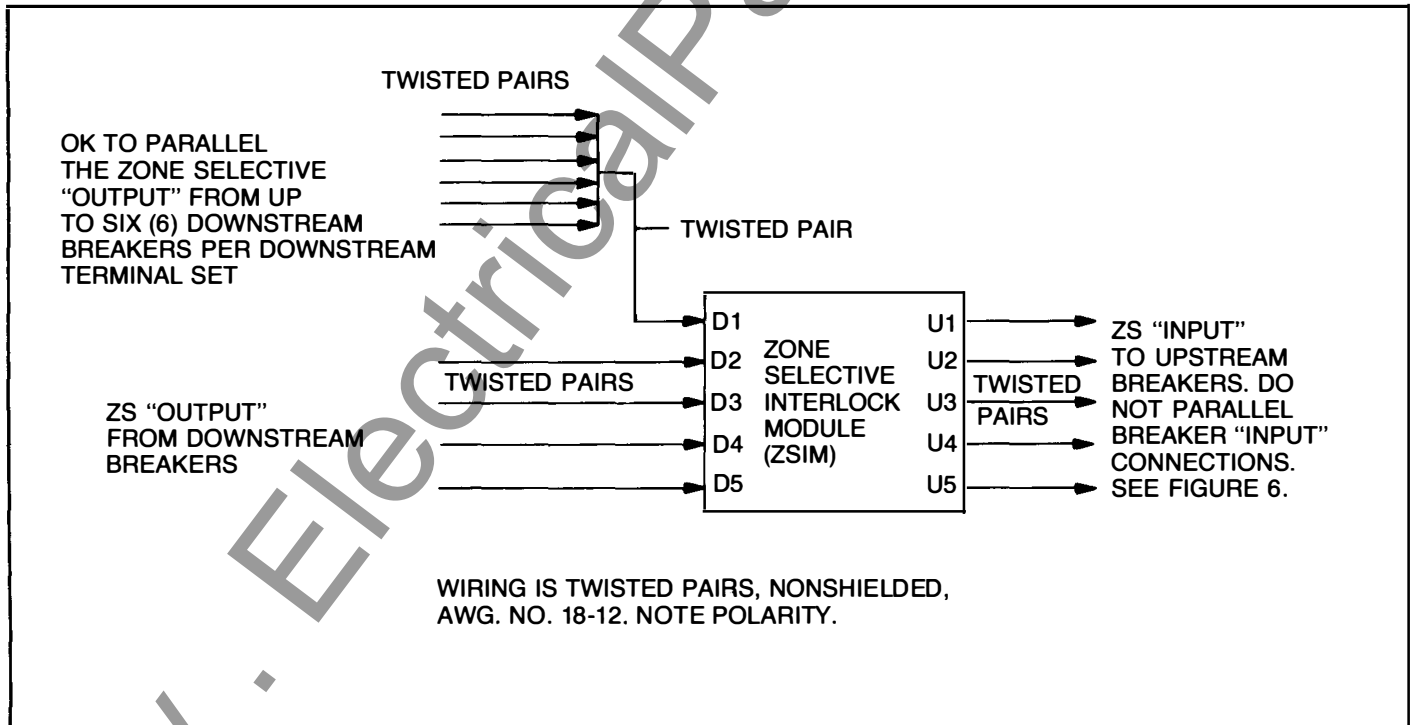

Figure 4. Wiring diagram showing "upstream" and "downstream" connections
- No more than six parallel "OUTPUTS" are used per downstream terminal set (e.g. D1; D2; D3, etc.). See Figure 4.
- Wiring is per Section III-C and Figure 4.
- Wire the module in accordance with Section III-C and Figure 4.